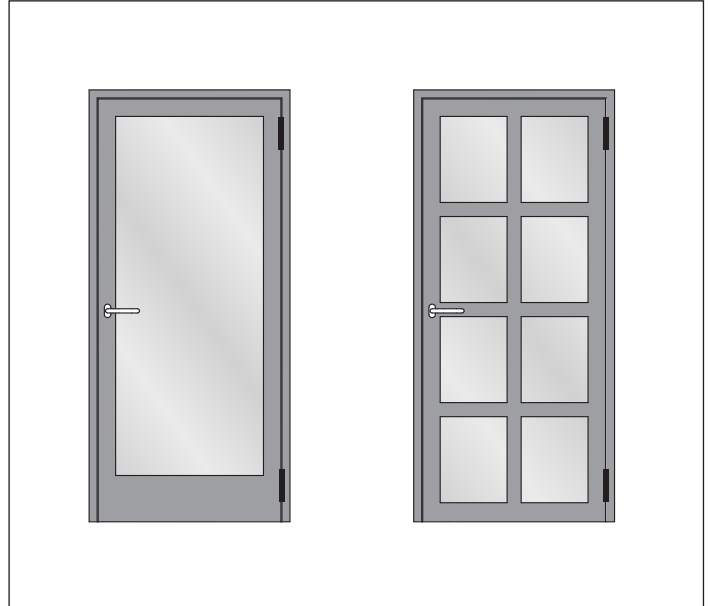

Fig. 106 Rigid leaf frame with mid-rails or a high sill rail
- One or several transoms (Fig. 106)
- High sill rail (height approx. 200 mm) Fig. 106